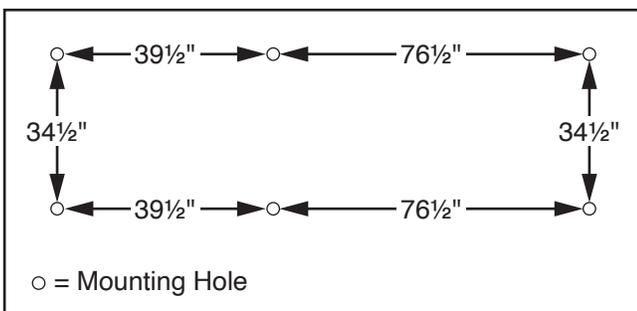

Figure 29. Mounting hole locations.
1. If anchoring machine to floor, use the template shown in **Figure 29** and refer to **Anchoring to Floor** on **Page 32** to prepare mounting location prior to machine assembly.